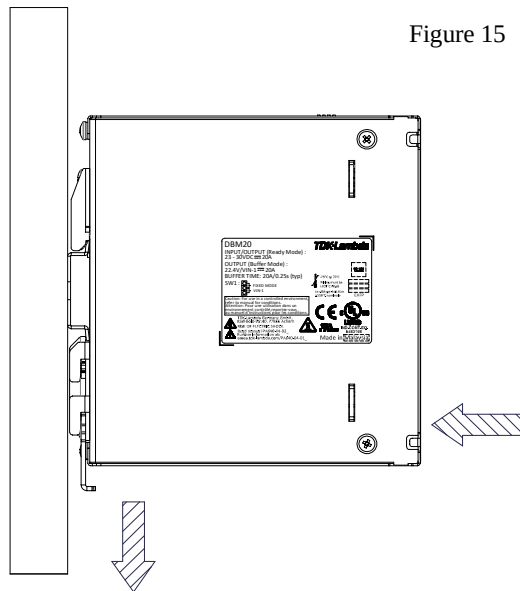

Figure 15
- 5.4.3 Refer to figure 15 below.